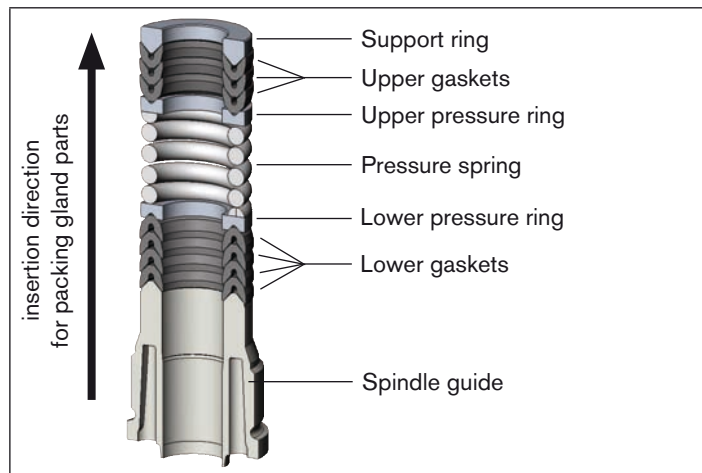

Fig. 21: Seal set for packing gland
- Connect the individual parts to the spindle in the specified direction and sequence (as illustrated in “Fig. 21: Seal set for packing gland”).